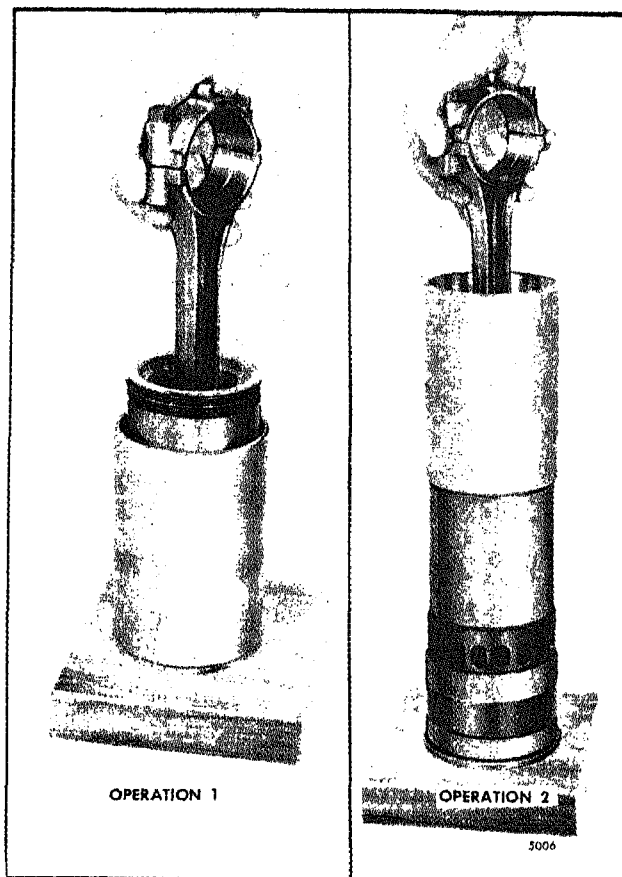

Fig. 8 - Installing Piston and Connecting Rod Assembly in Ring Compressor and Cylinder Liner
4. Start the top of the piston straight into the ring compressor. Then push the piston down until it contacts the wood block (Operation 1 of Fig. 8).
6. Place the ring compressor and the piston and connecting rod assembly on the liner so the numbers on the rod and cap are aligned with the matchmark on the liner (Operation 2 of Fig. 8).